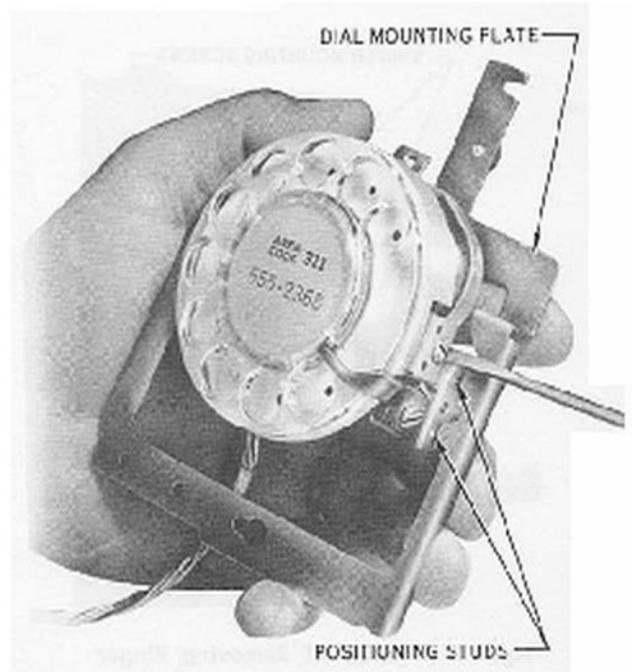

Fig. 28 – Removing Dial from Dial Mounting Plate
- (9) Tip screwdriver handle outward (Fig. 28). This action will disengage positioning studs and raise side of dial.
- (10) Grasp dial in hand and lift out.